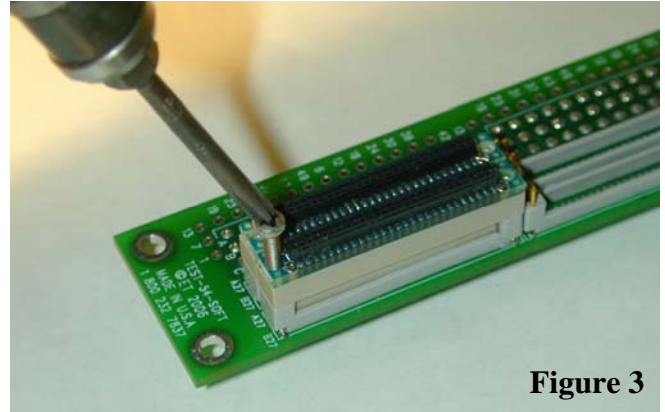

Figure 3
3. Insert and tighten the two screws in an alternating manner to ensure the base inserts evenly into the retention module. ET recommends the use of torque screwdriver ET-TORQ-7CN to prevent over-tightening the screws. These screws are designed to provide strength in holding the base into the module, yet are low-profile to not interfere with the adapter card. (Figure 3)